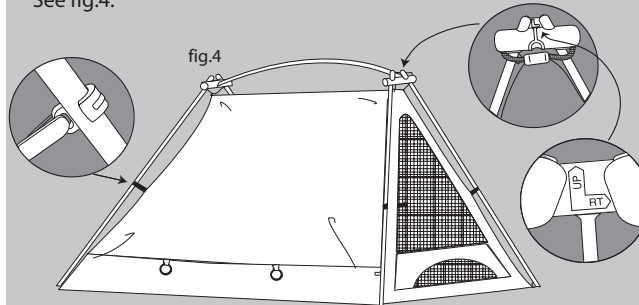

fig.4
**NOTE:** Junction tubes can be tied to the tent with the S-rings provided. Tie one end to the shock-cord loop. Pass the other end through the 1/8" hole in the junction tube and tie a knot. See fig.4.